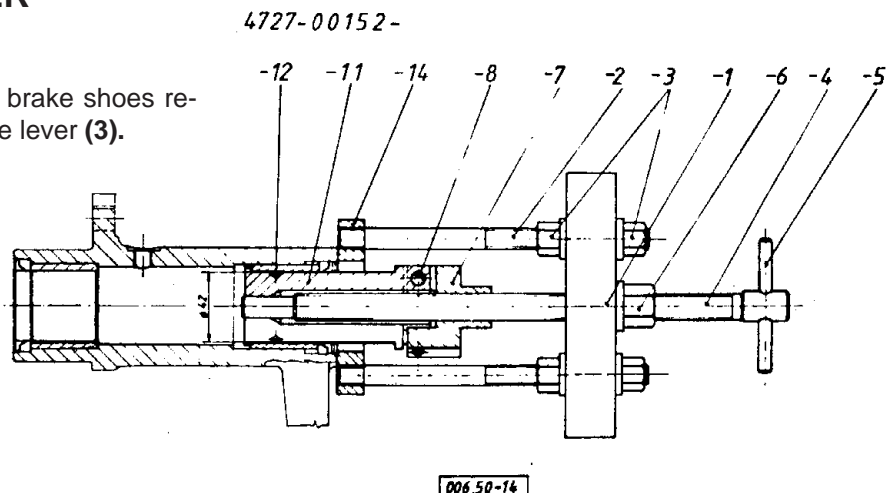

Fig. 1.: PULLING OUT THE BEARING BUSHINGS
By means of the tool shown pull the bearing bushings (9) out of the chamber bracket (4). See Fig. 1.